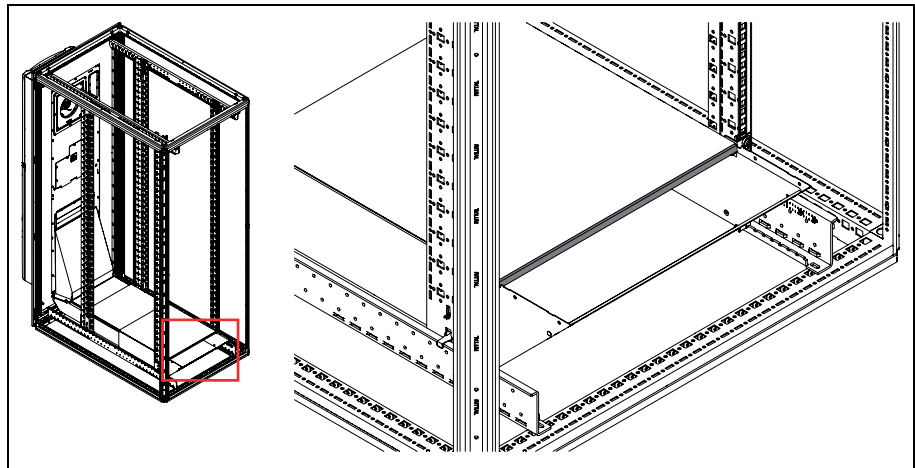

Fig. 22: Protective grille seal
- Then attach it to the contact surface between the protective grille and the air duct cover at the front (fig. 22).